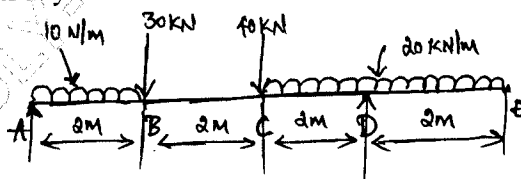

Fig Q5
- 5 For the beam shown in Fig Q5: Draw shear force and bending moment diagram. Locate the point of contra flexure if any.